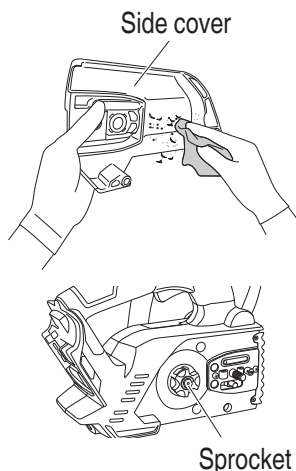

Fig. 43
2. Cleaning the side cover and sprocket (Fig. 43)